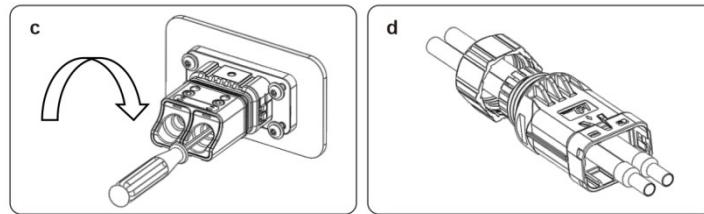

Fig.4-24 Tighten connectors
Step4: Installing the communication harness: you will install the communication harness 1, communication harness2 respectively to the position in Figure 4-24, and at the same time, cut the ties of the communication harness on the left side of the cabinet and connect the harness to the battery